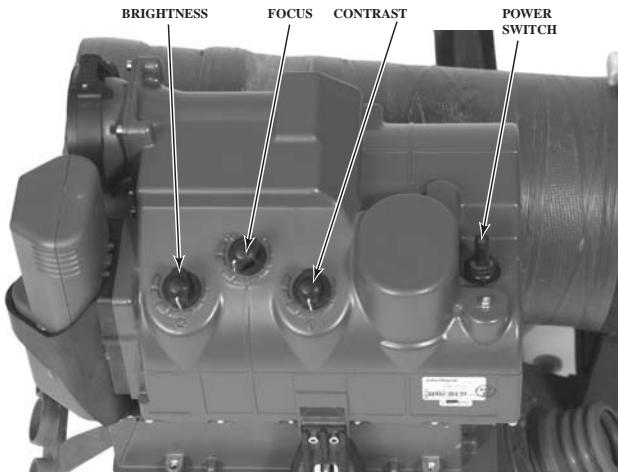

Figure 3-8: Power Switch and Image Controls
24. **On/Off/Standby Switch.** The power switch is a three position toggle switch located on top of the thermal imager near the back (see Figure 3-8).
26. **Image Controls.** The Mirabel Thermal Imager has controls for brightness, contrast and focus (see Figure 3-8). All three have optimum pre-set positions that feel like soft clicks as the knobs are turned. These pre-sets are tailored to engagements under most conditions within the range band of the weapon system. They enable a gunner to engage quickly without the need to make fine adjustments to the thermal imager, especially if he is firing from the shoulder. The brightness knob increases or decreases the apparent sensitivity of the sight and will enable a gunner to show all IR sources or threshold out less intense ones. The contrast knob increases or decreases the amount of detail in the picture and is useful for recognition or identification purposes. The focus knob, when turned, has very little effect. The focus for the thermal imager is optimized for the entire range band of the weapon and only when objects well beyond 600 metres are being observed will changing the focus have any discernable effect. Gunners should become very familiar with the effect on the sight picture that different adjustments produce.
Adjust the image (brightness, contrast and focus) (Figure 3-8)